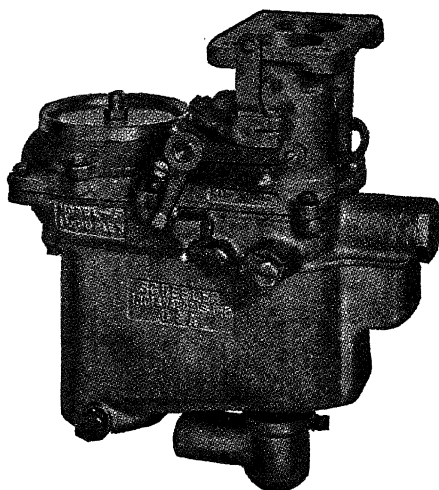

Fig. 132. Schebler Model "S" Duplex Carburetor
**Model "S" Duplex Carburetor.** The general principles of design used for the single Model "S" are applicable to the duplex Model "S," Fig. 132. When starting a car equipped with this carburetor, the dash control is pulled all the way out. Next turn on the ignition switch, release the clutch, open the hand throttle about halfway, and step on the starting switch button. After the